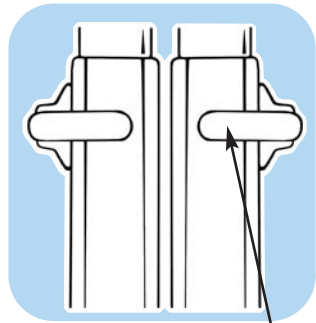

Figure B-1
**B. The Lock Tab Assemblies-** The second mechanical component of the ladder system is the LOCK TAB ASSEMBLY. There are four of these on each ladder. These permit you to change the height of the ladder (See figure B-1).